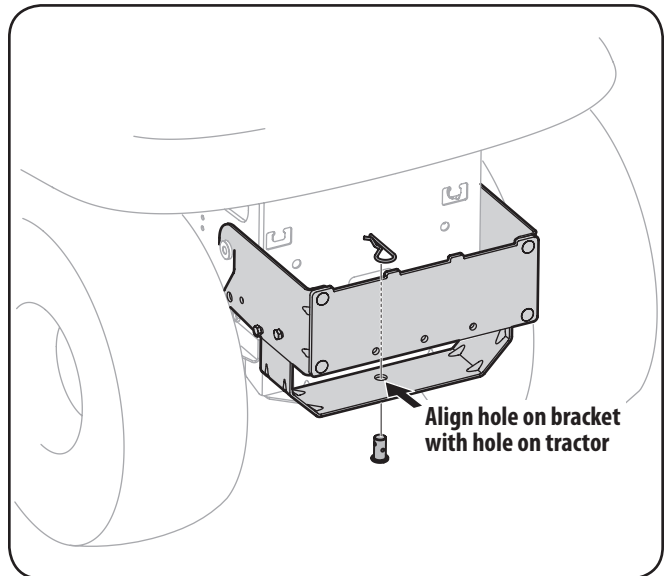

Figure 4-8
2. Install the clevis pin from hardware pack 689-00087 into the tractor's hitch and secure with a hairpin clip. See Fig. 4-8.